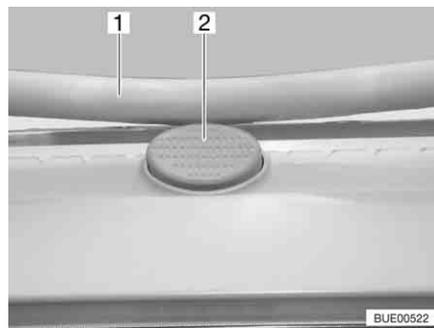

Fig. 116 Safety knob on the Heki skylight
- Press the safety knob (Fig. 116,2) and pull the bar (Fig. 116,1) down with both hands.
- Push the bar upwards with both hands until it is above the safety knob (Fig. 116,2).